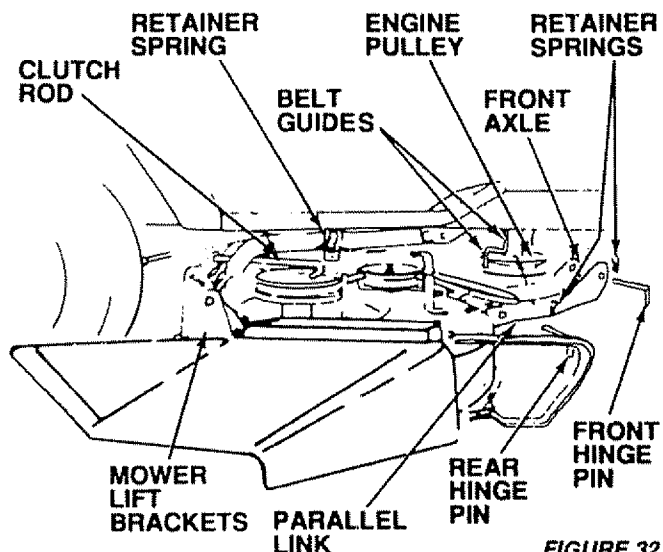

FIGURE 32
- Install front hinge pin through axle and parallel link (Fig. 32). Secure with retainer spring.
- Install rear hinge pin through mower lift brackets and parallel link (Fig. 32). Secure with retainer spring.
- Install clutch rod in clutch lever (Fig. 32).
- Roll belt over engine pulley. Make sure belt is inside belt guides (Fig. 32). See belt drive schematic decal on mower housing.